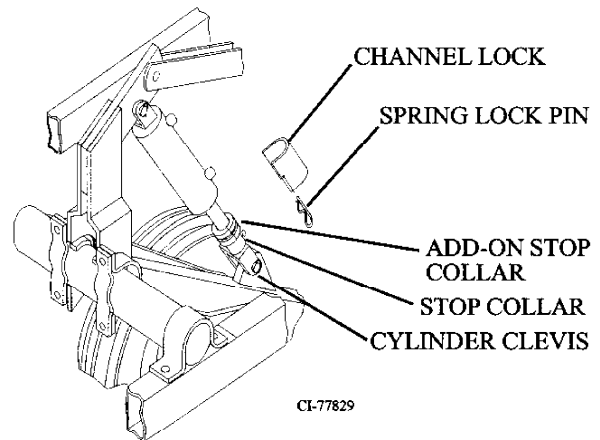

Fig. 5 Main Lift Cylinders
The implement must always be placed in the transport position and the cylinder channel locks (Fig. 5) used when traveling on public roads. Never depend on your tractor's hydraulic system to carry the weight of the implement while transporting.
**NOTE:** Always install lock channels in the main lift cylinders for road transport (See Fig. 5).
The main frame depth on the Wil-Rich 3400 Series field cultivator is regulated by a pair of top bypass hydraulic cylinders located in the wheel well area. (See Fig. 5.)
The main frame depth is mechanically set by turning the stop collar "Down" the cylinder rod, away from the cylinder clevis for decreased working depth, and "Up" the cylinder rod, toward the cylinder clevis for increased working depth. An add-on stop collar is provided in situations where the cylinder rod stop collar does not allow a shallow enough setting. (See Fig 5.)